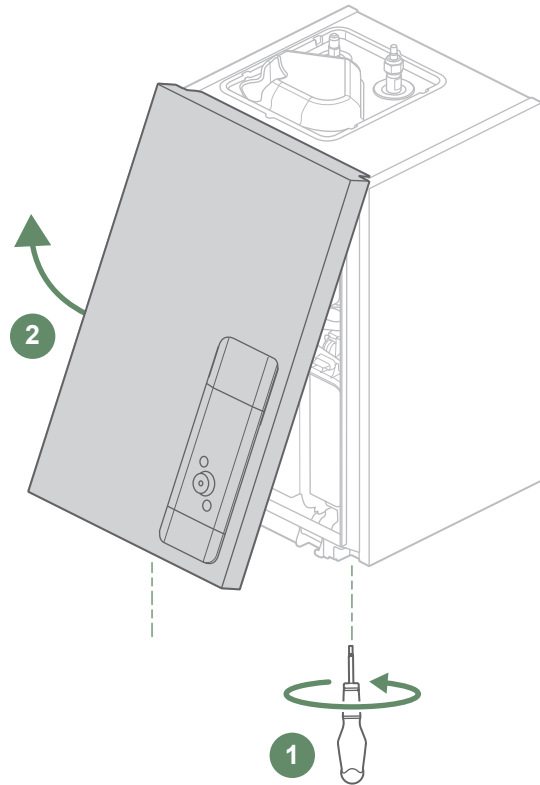

fig. 18 - Opening the front panel
- When operating, water may be discharged from the outdoor unit. Do not install the appliance on a terrace, but choose a well-drained spot instead (bed of gravel or sand). If the appliance is installed in a region where the temperature can stay below 0°C for a long period, check whether the presence of ice may represent any danger. It is also possible to connect a drain pipe to the condensate drain tray (optional) (*Fig. 18, page 17*).